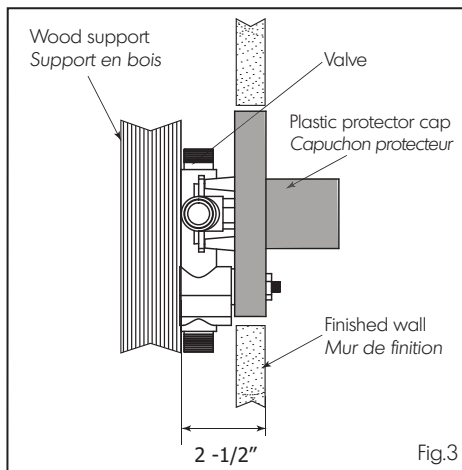

Fig.3
**!** TO ENSURE A PROPER INSTALLATION OF THE VALVE INSIDE THE WALL, IT IS VERY IMPORTANT TO FOLLOW THE RECOMMENDED DEPTH AS INDICATED IN THE ILLUSTRATION (Fig.3).
AFIN D'OBTENIR UNE INSTALLATION OPTIMALE DE LA VALVE, IL EST IMPORTANT DE RESPECTER LA PROFONDEUR SUGGÉRÉE TEL QU'ILLUSTRÉ (Fig.3).